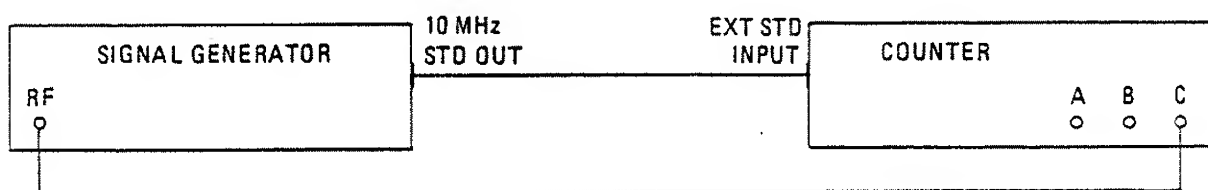

Fig. 6.7 Connections for Input C Assembly Adjustment
- 36 Connect the test equipment as shown in Fig. 6.7.